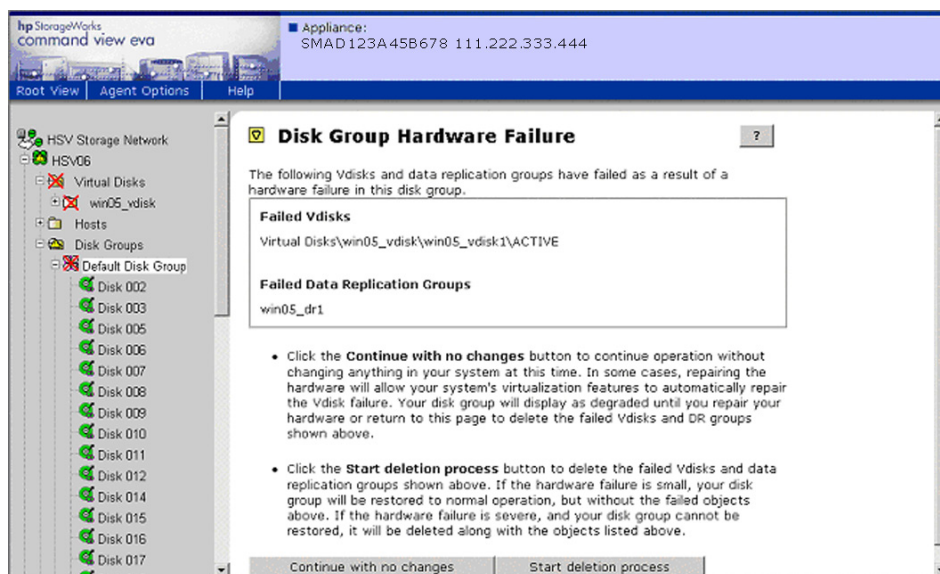

Figure 57: Disk group Hardware Failure page
4. Navigate to the destination storage system and open the failed disk group in the Disk Group folder. You are presented with a Disk Group Hardware Failure page like that shown in Figure 57.